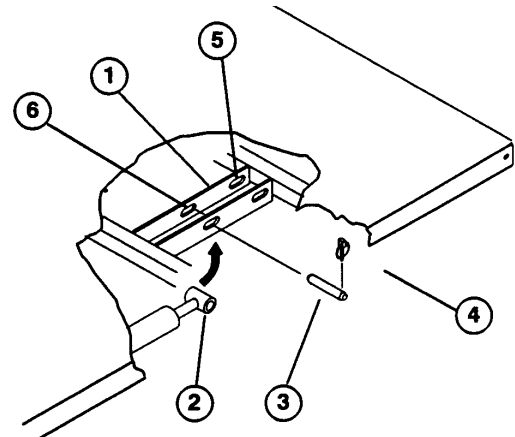

Figure 9
5. With the bed lowered, secure each cylinder rod end to the appropriate slots in the bed mounting plates with a clevis pin and lynch pin. Insert the clevis pin from outside of the bed with the lynch pin toward the outside (Fig. 9). The rear slots are for full bed installation and front slots are for 2/3-bed installation.